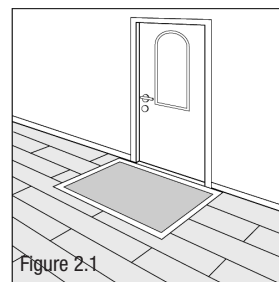

Figure 2.1
- Use floor mats at all entrances to help keep dirt and moisture from being tracked in (Figure 2.1). Area rugs are recommended in high traffic areas and at sinks. Mats and area rugs should be slip resistant with backing that will not discolor the floor.